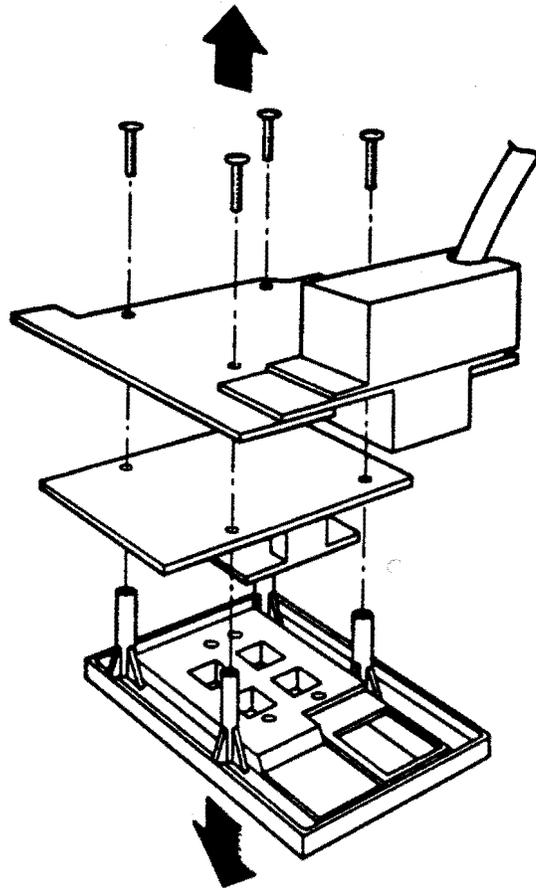

Figure 6-31: Front Control Panel Disassembly
6. Remove the four screws that hold the control panel assembly together (Figure 6-31).